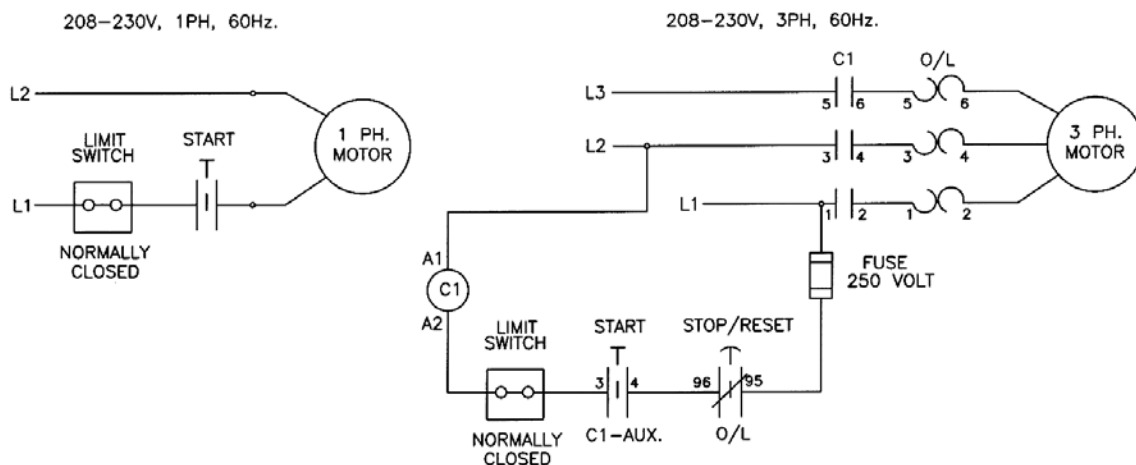

Figure 12 – Electrical Diagram
2. Bolt power pack to the mounting bracket on the power side tower using four (4) 5/16"-18UNC x 1"LG. hex head bolts, four (4) 5/16" ID lock washers, four (4) 5/16" ID flat washers and four (4) 5/16"-18UNC hex nuts. Do not tighten.
4. A **certified electrician** must connect the 230Volt/1Ph power to the motor. The electrical diagram is provided, refer to **Figure 12**.